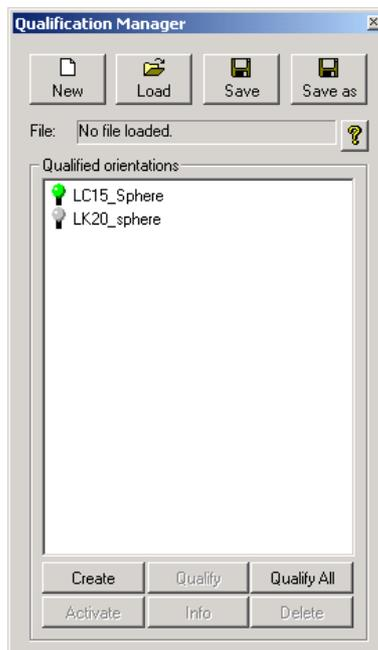

Figure 10: Qualification Manager in Metris Scan.
- If unseen, bring up the Qualification Manager window (Figure 10) by clicking the  icon on the 2nd row of icons at the top of the Metris Scan screen.